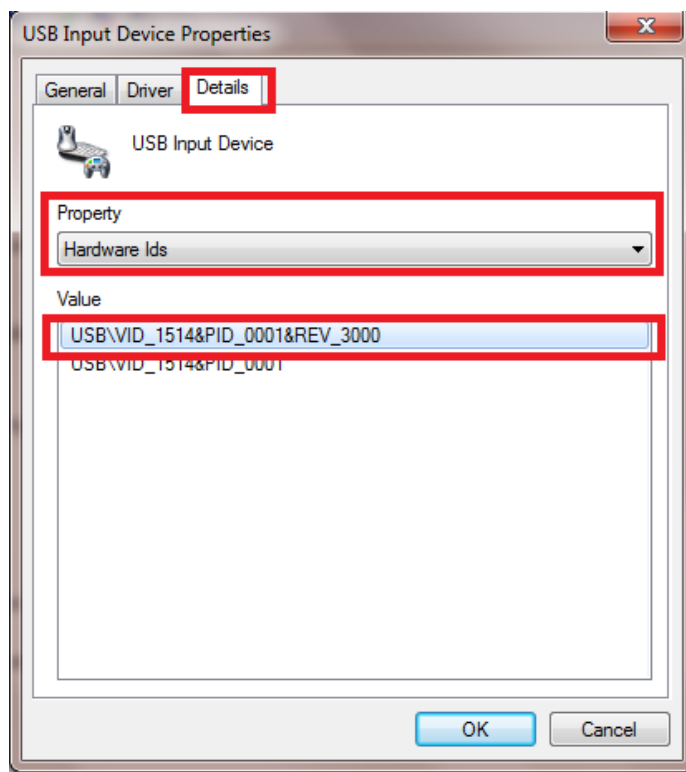

Figure 6 • Selecting the Right VID Number in the Properties Window
- Figure 6 shows the **USB Input Device Properties** window.
6. Select the appropriate VID number under **Value** and click **OK**. The VID number must have 1514, as shown in Figure 6.